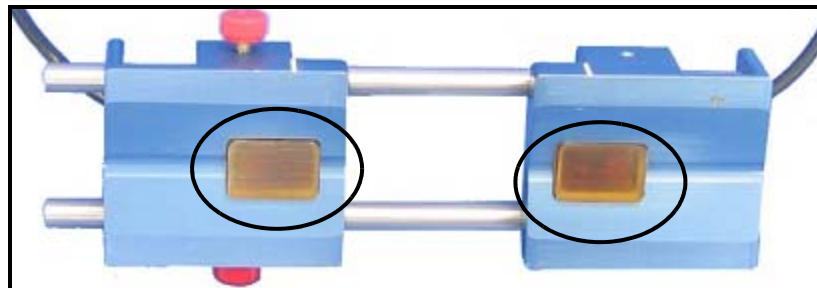

Figure 1-7: The Transducer Faces
1. Apply the supplied couplant to the transducer faces, as shown in Figure 1-7 below.